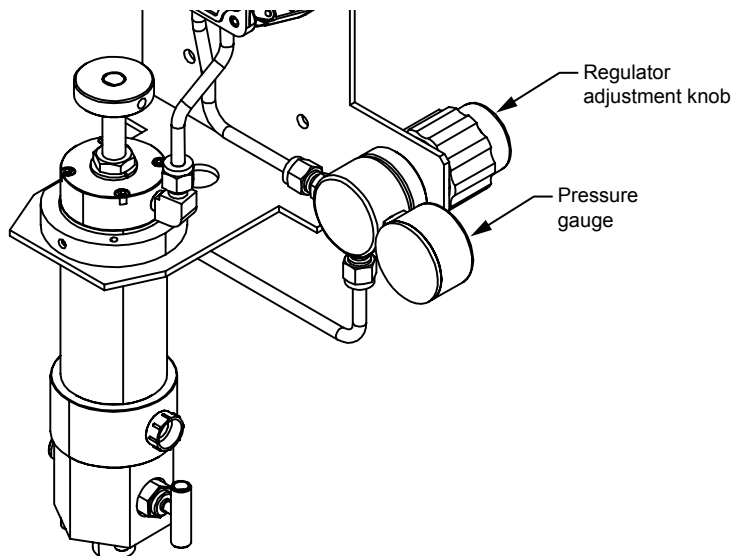

Figure 2.2—Regulator adjustment control
5. If using an external air supply, connect the air supply discharge outlet to the regulator using stainless tubing. If process gas will be used to actuate the pump, the air supply tubing will be connected to the pump at the factory as shown in Figure 2.2.